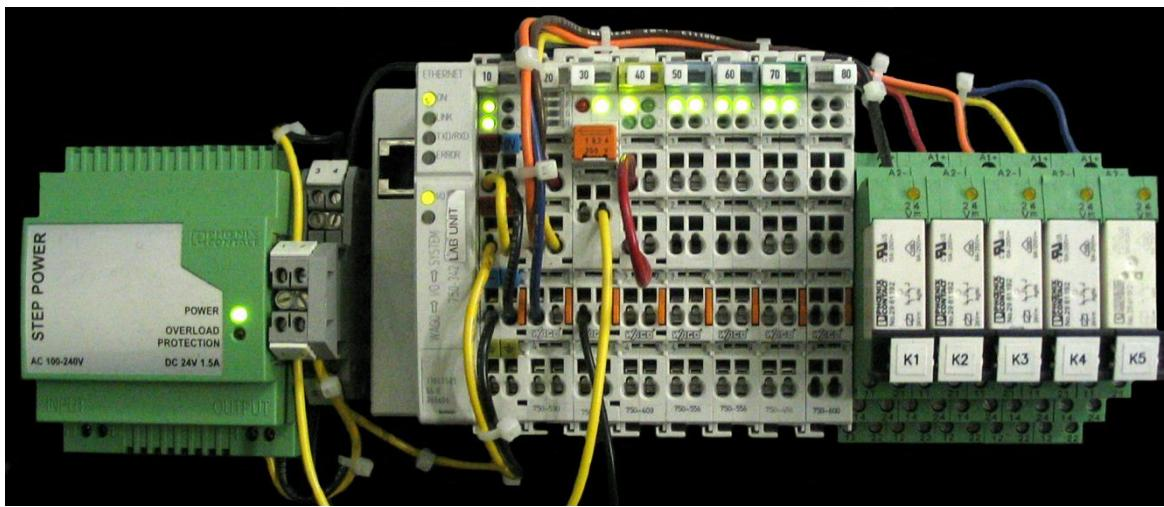

Figure 4.2 Optional Discrete I/O Kit
- Secondary ethernet port - for direct communication with the optional discrete I/O kit (Figure 4.2). See section 4.4 for more information.
The secondary ethernet port can be used to connect to the optional discrete I/O Kit (Figure 4.2). The scanner/gage operates as a master, controlling the WAGO bus coupler through a direct ethernet link.
A typical discrete I/O kit (Figure 4.2) features the following components: power supply, discrete I/O CPU, discrete I/O modules, and dry contact relays. All inputs and outputs are mounted as individual modules that are controlled by a central I/O CPU. Each module is easily replaceable (plug & play) and requires no programming or configuring.